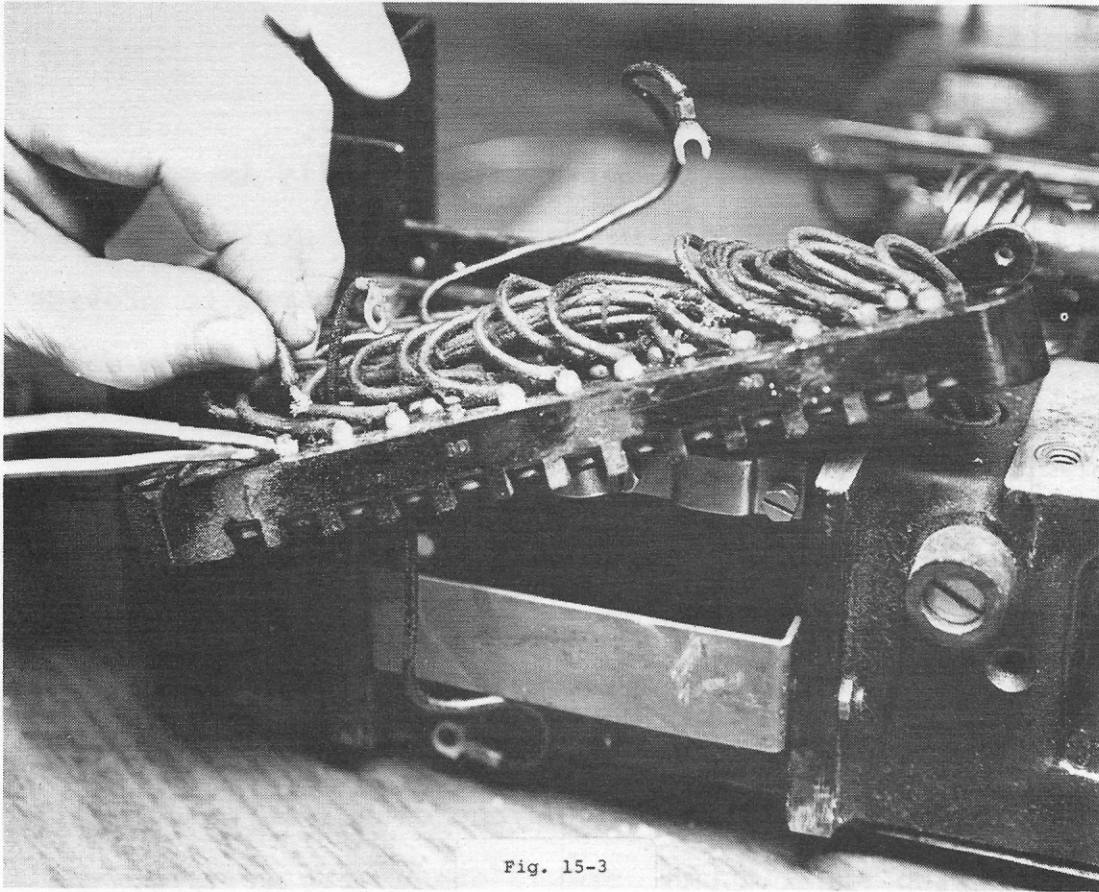

Fig. 15-3
3. Using a hot (100-watt size) soldering iron, unsolder all connections from the pins on the back side of the terminal strip. Using a pair of long nose pliers, pull each wire off each pin, after it has been heated well enough to assure easy unsoldering and pulloff. After all wires have been removed, set the terminal strip aside. Fig. 15-3.